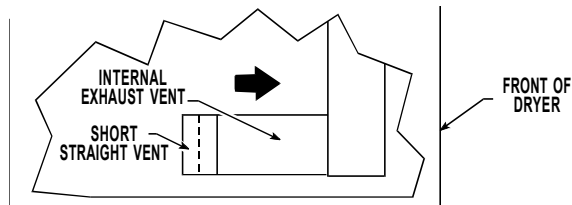

FIGURE 5
- Push the short straight vent (provided in kit) onto the internal exhaust vent as far as it will go. See Figure 5.